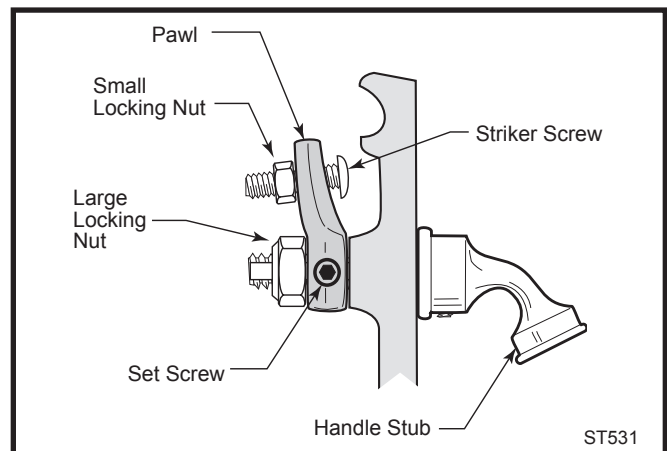

Fig. 14 Turn the door latch striker screw in or out to tighten or loosen the door latch.
1. Loosen the small lock nut with a 7/16" wrench. (Fig. 14)